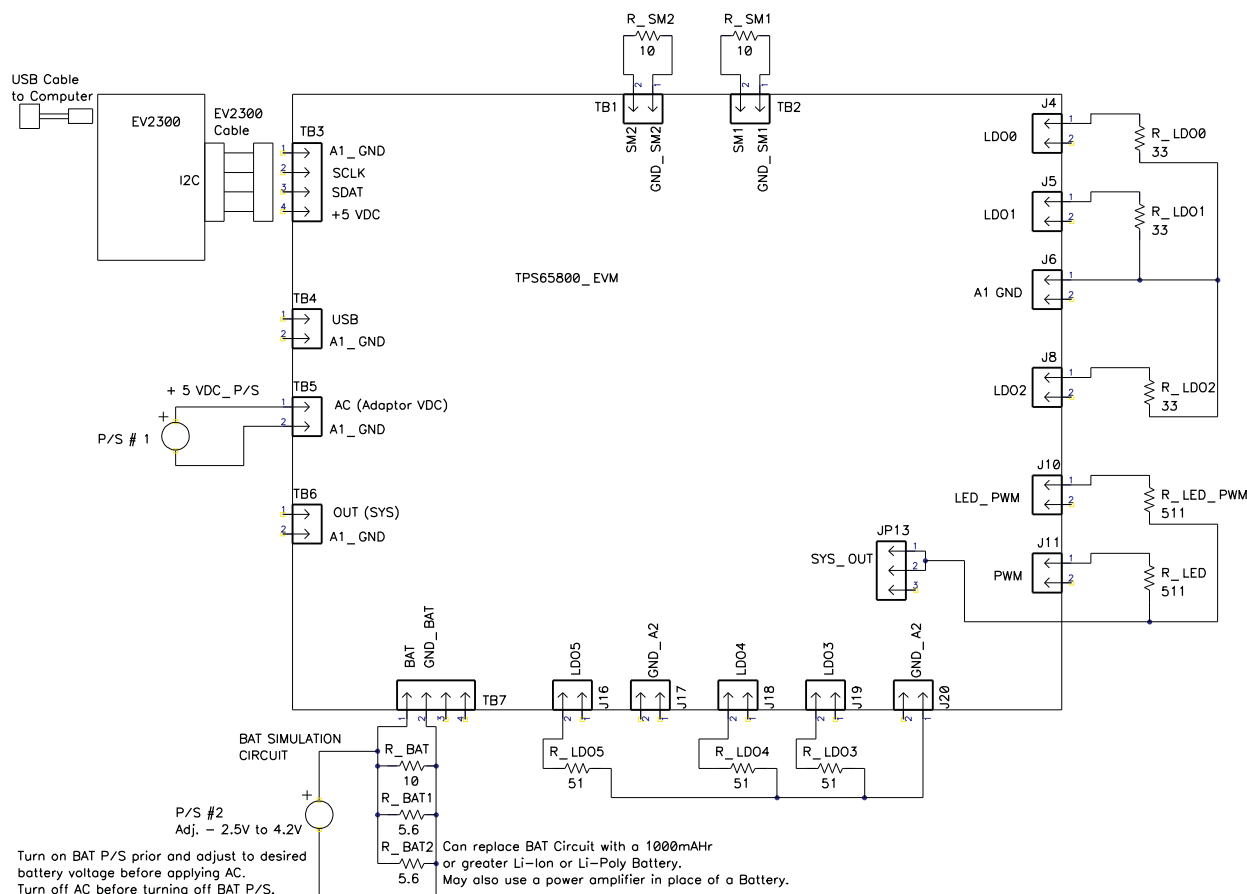

Figure 2. Equipment and EVM Setup
3. SM1/2 load board; 10-Ω, 1-W resistor load for each output TB1-1/2 and TB2-1/2. See Figure 2.
4. LDO load board: 33-Ω, 1-W each for J4-LDO0 to A1 GND, J5-LDO1 to A1 GND, J7-LDO2 to A1 GND; 511-Ω, 0.5-W pullup resistors J10-LED_PWM to TP29-SYS_OUT and PWM to TP29-SYS_OUT; 51-Ω, 1-W load resistors for J19-LDO3 to A2 GND, J18-LDO4 to A2 GND, J16-LDO5 to A2 GND. See Figure 2.
5. Battery-simulated load board: Two 5.6-Ω, 20-W and one 10-Ω, 5-W resistors in parallel and connected TB7-1/2 (~2.19 Ω). See Figure 2.
4. Connect the loads shown in Figure 2. These are suggested loads, but the user can substitute any load that is within the specification of the IC. The PWM and LED_PWM are open-drain outputs and require an external pullup resistor to OUT (System Power). TB6-1 or TP29 can be used as a source for SYS_OUT.
5. Connect the battery-simulated load board shown in Figure 2 below UUT; leave bias supply off. A single-cell Li-ion battery can be used in place of the simulated battery if quick battery voltage adjustment is not needed for evaluation. The battery supply should be the first supply on and the last supply off to avoid putting the BAT output on an unpowered external supply. A power Schottky diode can be placed in series with the positive lead (anode to P/S+) of the battery supply to protect the supply, if necessary.
7. Preset P/S#1 to 5.1 VDC+/-0.1VDC, Current Limit to 2.5A, P/S#2 to 3.5VDC+/-0.1VDC, Current Limit to 2.5A, turn off supplies, connect P/S#1 to TB5-1&2 (+ to AC), and connect P/S#2 to TB7-1&2 (+ to BAT_OUT). See Figure 2.